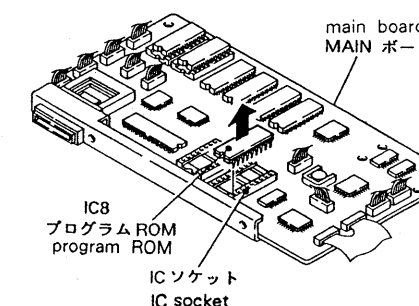

Fig.4 (図-4)
4) When the main board is positioned face up, the program ROM can be seen First verify that it is the program ROM of IC8 and then remove the ROM from the IC with a tool such as a ROM puller. (Fig.4)